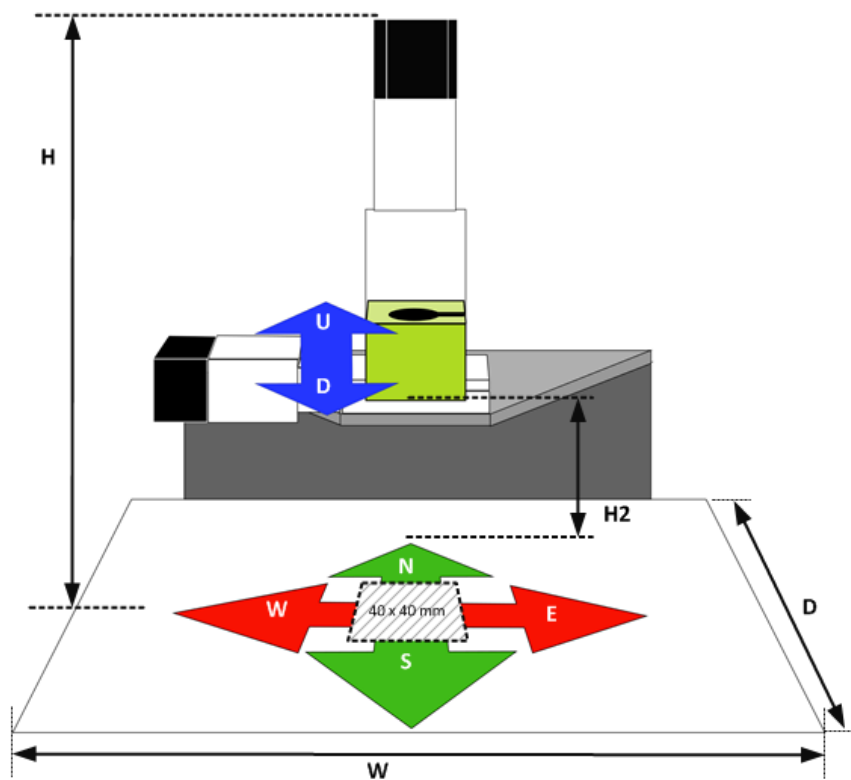

Figure 10 Main dimensions and control directions of the Probe Station.
6. Press and hold the on-screen buttons N (North), E (East), S (South), W (West), U (Up) or D (Down). See Figure 10. This activates the different motors.